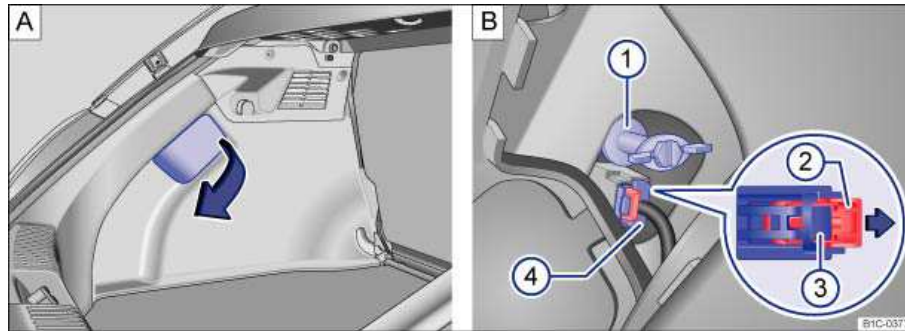

Fig. 178 In the side of luggage compartment: A: Open cover of the rear side panel. B: Removing the taillight assembly.
3.	Open the cover of the rear trim panel ⇒ fig. 178 A (arrow). Use the flat blade of the screwdriver from the vehicle tool kit, if necessary. Remove the subwoofer, if necessary
4.	Pull the red locking tab B (2) in the direction of the arrow to unlock connector plug B (4) .
5.	Push the plastic catch B (3) to release connector plug. Then pull out connector plug B (4)
6.	Unscrew the large taillight fastening screw by hand B (1) and carefully remove the taillight assembly from the vehicle body. Take care that the screw does not fall into the vehicle body after disassembly.
12. Hold the taillight with one hand in the installation position and with the other hand, tighten the taillight fastening screw ⇒ **fig. 178 B (1)**.
14. Plug connector plug **B (4)** into the bulb socket and push red locking tab **B (2)** in the direction opposite to the arrow.